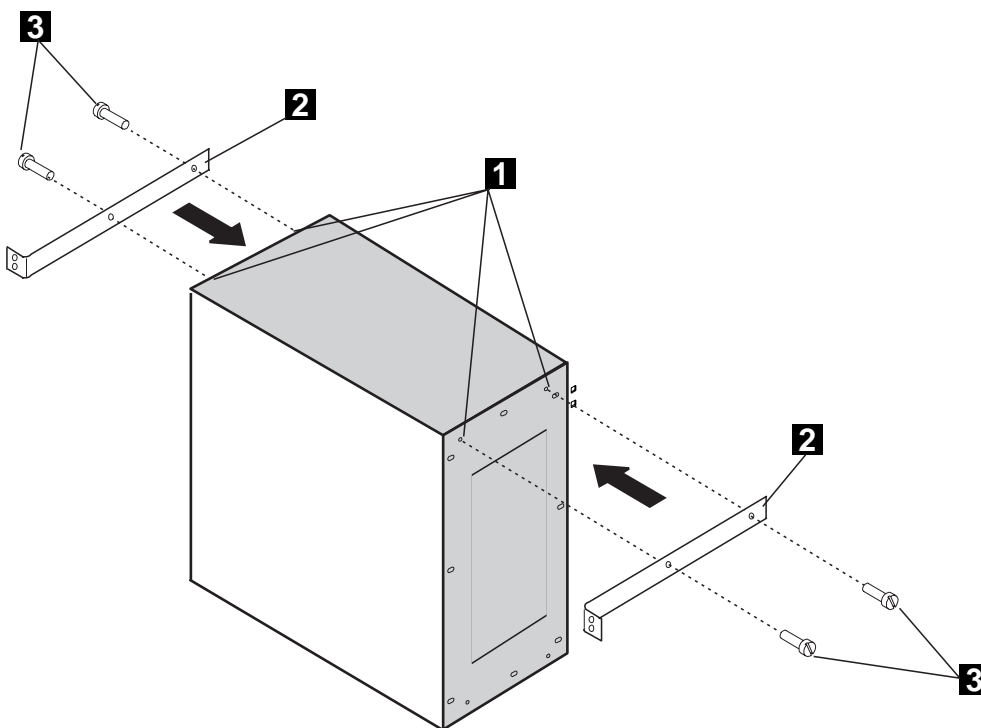

Figure 1-4. MAE Brackets Installation
5. ____ Refer to Figure 1-4, **remove** the four screws **1** installed on the MAE frame, then **install** on the left and right side of the MAE two brackets **2** (PN 0782961) using four screws **3** (PN 1621191).